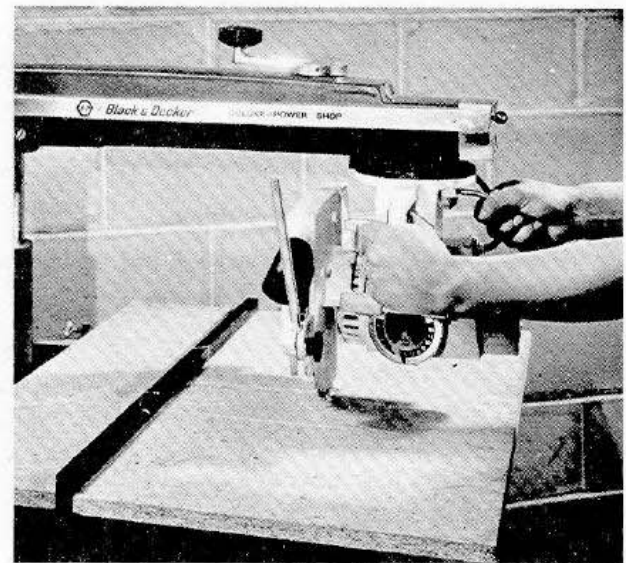

FIGURE 2
- (e) With the saw still running and your left hand still on the handle release the yoke lock with your right hand and pull it with sufficient strength so the yoke clamp handle presses against the yoke locator pin bell pulling the yoke locator pin out of the hole in the roller head. You can now rotate the saw blade in a clockwise direction. Release the pressure on the bell and continue rotating the blade until the spring mounted yoke locator pin falls into the next hole. You have now cut in the table top a $\frac{1}{4}$ turn groove known as the swing line. The saw is now in the "in-rip" position. (Refer to figure 2) **Loosen Rip Lock.**